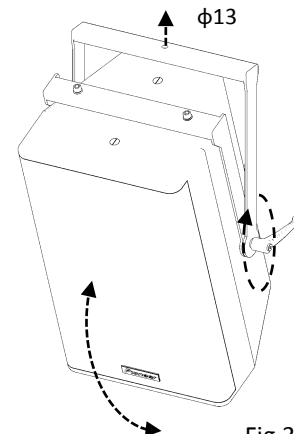

Fig.3-2-1-E
Ensure that both the Flat Washer(D) and the Spring Washer(C) are used - the Flat Washer(D) should be in contact with the cradle. Tighten the bolts over 15N·m torque (Only XY-101: 7N·m torque). (Fig.3-2-1-C)